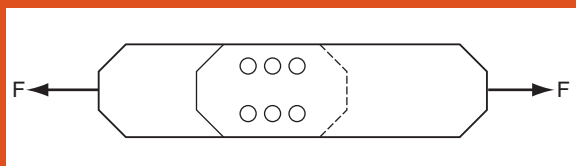

Figure 5.51
5. Two plates are held together by rivets, as shown in Figure 5.51. The rivets are 10 mm diameter and the material has an ultimate shear stress of 300 MN/m^2 . Determine the maximum force to be applied if a factor of safety of 5 is used.